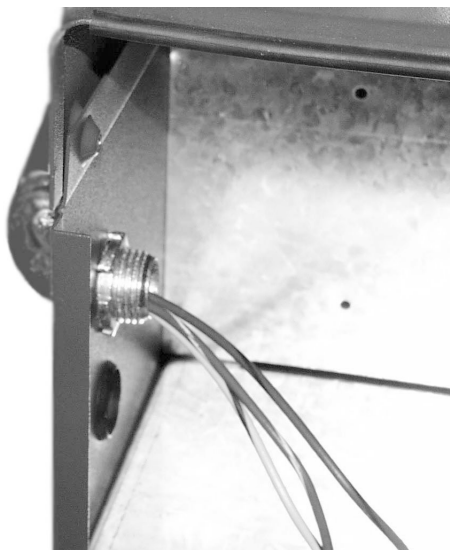

Figure 18. Wire Plumbing Location
16. Install the left side outdoor conduit through the top 7/8" hole located on the left side of the heater. See **Figure 18**.